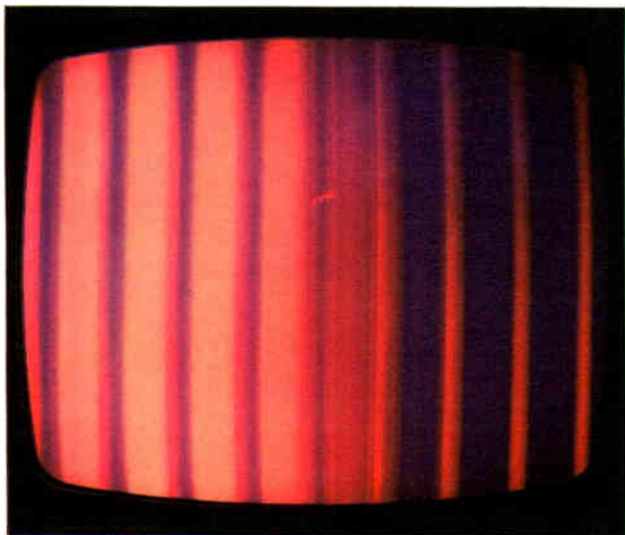

Fig. 7-13. Correct pattern with the sixth bar nulled.
*Red Bars*—Ground the green and blue color-picture tube grids. This will present a completely red screen as shown in Fig. 7-13. The sixth bar should have approximately the same brightness level as the background. The brightness should be turned up slightly so